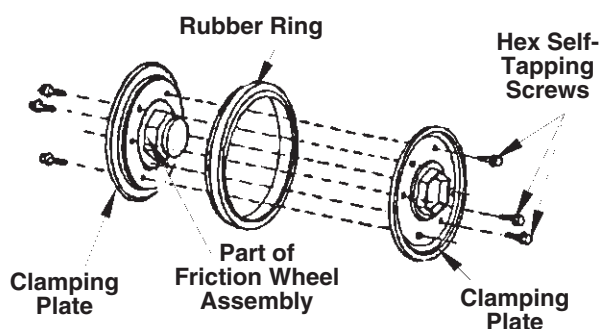

FIGURE 11.
4. Slip belt between friction wheel and friction wheel disc. See figure 11. You may have to twist the belt flat in order to slide it through the clearance between the friction wheel and the friction wheel disc. Remove the belt completely.
1. Check wear on friction wheel at least once a season. Replace rubber ring (friction wheel) before clamping plates damage aluminum drive plate. See figure 11.
6. Remove four self-tapping screws from the left side frame cover and remove the cover off the drive shaft assembly. Refer to figure 11.
11. Slide the friction wheel assembly up onto the shift mechanism as shown in figure 11 and slide the hex (gear) shaft back into the unit.